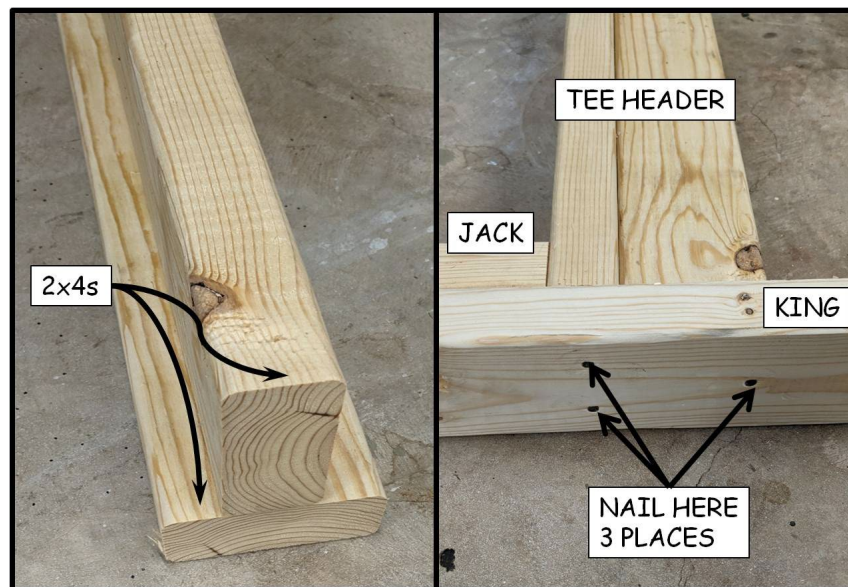

Figure 4-3. T-Header Assembly.
2. From the 2x4 pieces precut in Section 4.1.5, select matching-length header pieces for each interior door. Nail together with 3" collated nails to create a "T" header (see Figure 4-3).
5. For non-flush sliding doors, identify the appropriate header and place it so the horizontal portion of the "T" header is on top of the Jack studs, tight against the King studs. Nail through the King studs into both ends of the header pieces with 3" collated nails - two nails in the horizontal piece and one nail in the vertical piece of the header (see Figure 4-3).
3. Identify the appropriate header and place it so the horizontal portion of the "T" header is on top of the Jack studs, tight against the King studs. Nail through the King studs into both ends of the header pieces with 3" collated nails - two nails in the horizontal piece and one nail in the vertical piece of the header (see Figure 4-3).